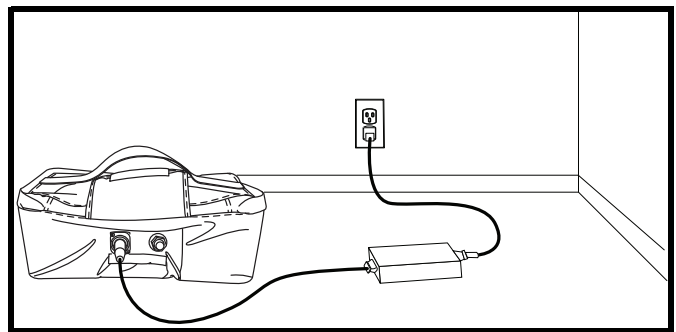

Figure 11. Charging The Batteries (Battery Pack Removed)
1. Position your Travel Scooter or battery pack close to a standard electrical outlet. See **figure 11**.